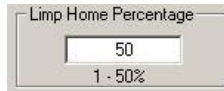

Figure 7.15: Limp Home Percentage
**Limp Home Percentage** (Figure 7.15) is the percentage of max torque at current speed the system is allowed to produce while in the **Limp Home** mode.